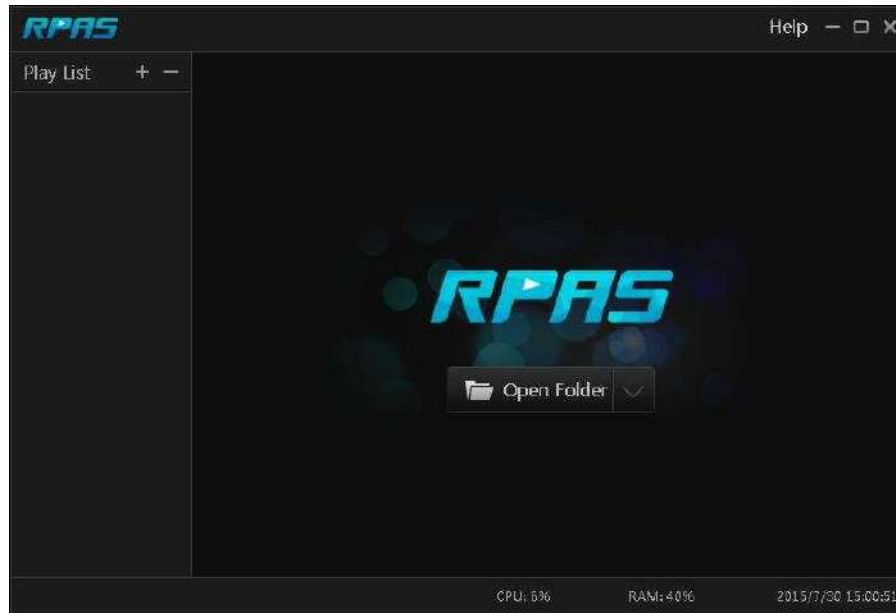

Fig 11-1
- If you select the private format when backing up recorded video by NVR, a RPAS compression package will be backed up to the USB device automatically along with the recorded video data. Uncompress the "RPAS.zip" and then click "RPAS.exe" to set up RPAS. After the setup is completed, open RPAS player and then click "Open Folder" in the middle of the interface to select the record data. Refer to Fig 11-1.